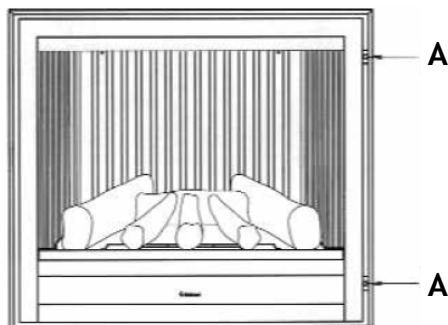

Fig.10
- 1) To open the door, remove the screws A (see fig. 10). Open and remove the door; lift and pull forward. Be sure that there are no fingerprints on the glass. It is not possible to remove those prints once they are burned in the glass.